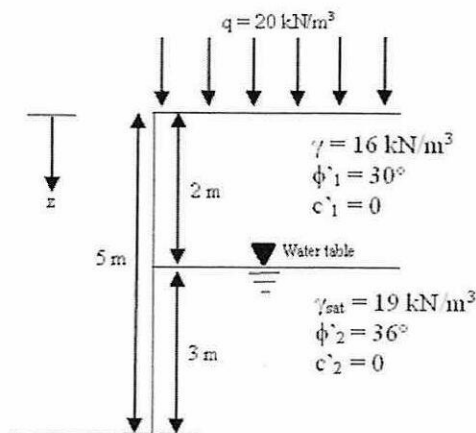

Figure Q2.1: An Embankment
- (b) By referring to **Figure Q2.1**, determine the Rankine active force per unit length of the wall and the location of the resultant line of action.